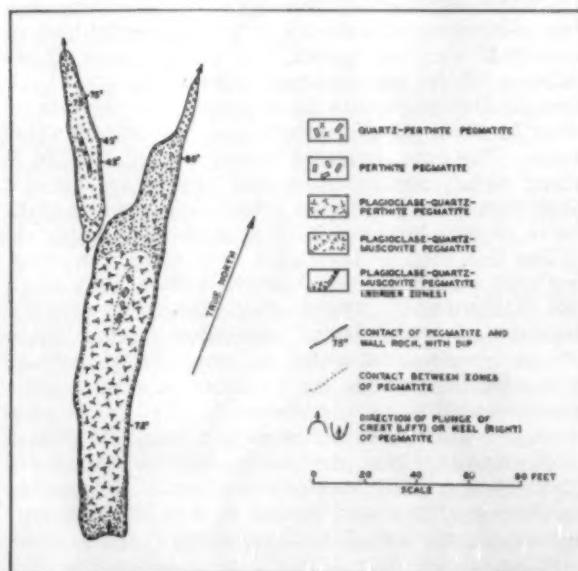

Fig. 8—Plan of pegmatites near the workers' quarters, Farm Umeis.
The theory of Belidor is the best, since it is logical that the explosive force has to break and lift the rock. It is necessary to know how much of this force is needed for each mentioned purpose, or one may be so small compared with another that it can be omitted without affecting the result. The rock breaking force will be proportional to the square of the line of least resistance, and lifting force will be proportional to the cube of line of least resistance. Thus the explosive charge  $L = aw^2 + bw^3$ , where  $a$  is the coefficient in pounds of explosive per square yard of rock which characterizes the strength of rock, and  $b$  is the coefficient in pounds of explosive per cubic yard which expresses the force necessary to lift a cubic yard of rock a certain height. This formula is useful only for an explosive charge located under a horizontal surface, so that height and length of line of least resistance are the same. For bench blasting, the bench height must be taken into consideration. Fig. 8 gives the relation between explosive charge  $L$  and line of least resistance  $w$ , where  $a$  is 1.6 lb of dynamite per sq yd and  $b$  equal to 0.25 lb per cu yd. More exact figures may be obtained in the future through more research.
This interpretation makes it possible to explain different phenomena. Considering the curves in Fig. 8, for a short line of least resistance the explosive charge is almost entirely proportional to  $w^2$  and for a long line of least resistance it is almost entirely proportional to  $w^3$ . For a short line of least resistance, where the value of  $aw^2$  is much larger than  $bw^3$ , the explosive force is proportional to the strength of the rock, but the longer the line of least resistance the less significant this relationship becomes. The same formula and diagram explain why the overloading of an explosive charge is more dangerous for blasting with a short line of least resistance, but not so dangerous with a long line of least resistance. As the force necessary to break the rock is greater than that necessary to cleave it, the tectonic conditions of the rock must be considered in explosive charge calculations. These theories and the formula explain why certain rocks with higher strength require the same or less explosive charge than rocks of lower strength.
Fig. 8 (left)—Relation between explosive charge, "L", and line of least resistance, "w." Fig. 9 (top)—Coyote tunnel drilling and blasting costs vs relation between charge spacing, "k", and line of least resistance, "w", expressed in feet.
*Pegmatites Near the Workers' Quarters:* Two small lenses of pegmatite exposed up valley from the workers' quarters are shown in Fig. 8. The smaller pegmatite strikes N 30° W, and the larger strikes N 10° W on the average. Both lenses dip steeply east. The smaller pegmatite has three zones. The border zone,  $\frac{1}{2}$  to 2 in. thick, is fine-grained and consists of quartz with abundant small muscovite books and subordinate plagioclase. Inside this is a wall zone composed essentially of plagioclase, quartz, and muscovite, with accessory perthite. The apparent core of the pegmatite consists of quartz with large, well-formed crystals of perthite. No beryl was observed.